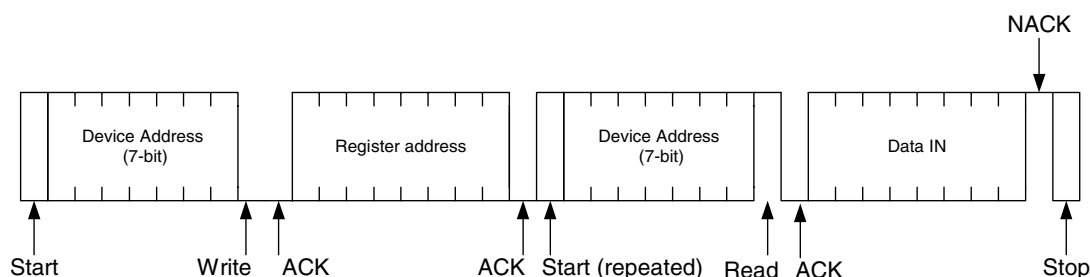

Figure 7-9 2-wire read operation example
4. A start only access is used to form a 2-wire repeated start access, shown in Figure 7-9. A repeated start access consists of a start only access command, followed by a start stop access command.
Figure 7-9 illustrates a simple read operation, where one byte is read back from the ATX chip.